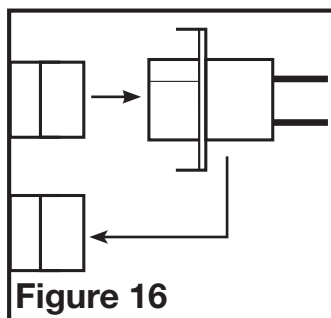

Figure 16
2. Disconnect the harness from the capacitor at the quick connect fitting and remove the "Boost Label" from the quick connect fitting on the boost capacitor (**Figure 16**).